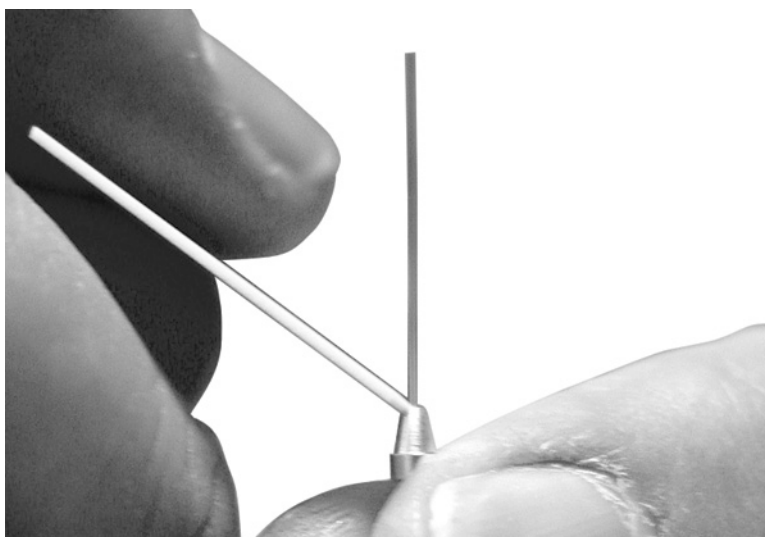

Figure 5 Ceramic column cutter and ferrule
- 5 Using a column cutter, trim the tubing at the small end of the ferrule leaving approximately 0.3 mm of tubing extending beyond the ferrule (Figure 5).